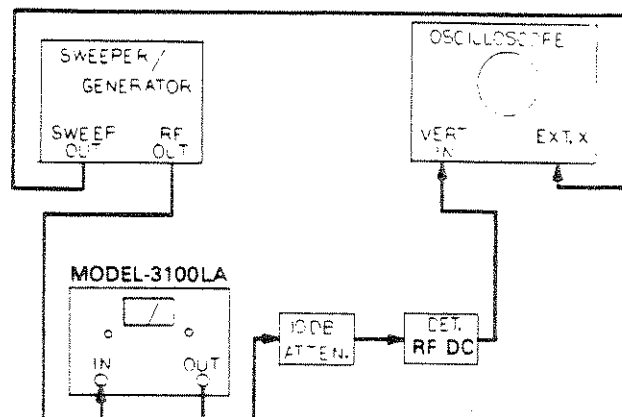

Figure 5-1. Gain and Gain Variation Test Set-Up
- a. Set up the test equipment as shown in figure 5-1.
- h. Reconnect Model 3100LA into the test set-up of Figure 5-1.